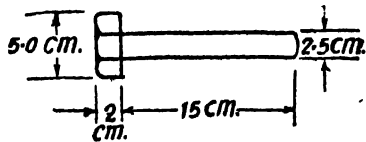

Fig. 8.3
3. Estimate the size of stock and weight of material required to forge 40 mild steel bolts as shown in Fig. 8.3.